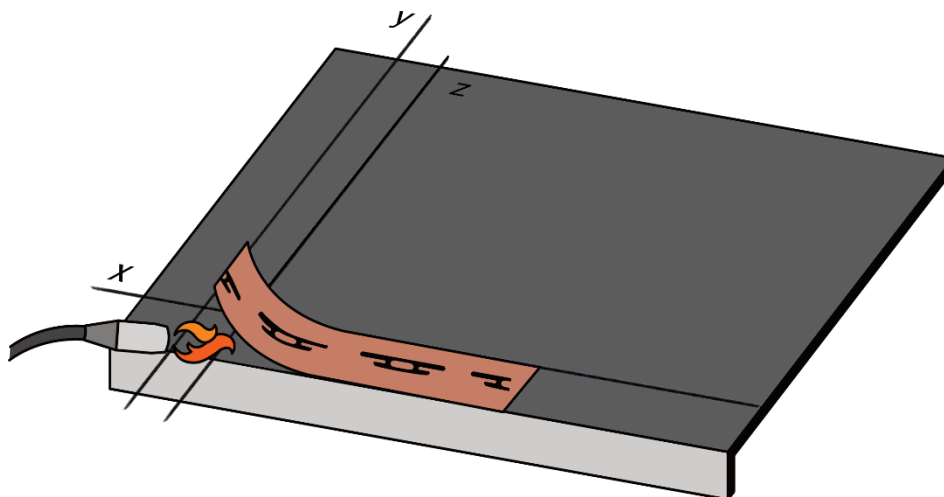

Fig. 16 - Starting row shingles installation by torch
- Fix starting row shingles to the membrane using the torch and lifting one side of the shingle at a time with a tool. Direct the flame towards the membrane to melt it. The back of the shingle will only be heated indirectly by the flame - see Fig. 16. Lower the bituminous shingle and press it (for example, by pressing with a foot) to help the penetration of the bitumen of the two elements: shingle and membrane.